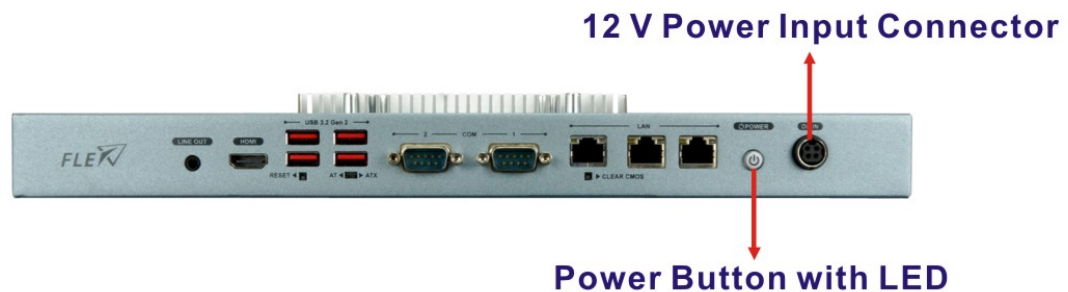

Figure 3-23: Power Button
Step 2: Press the power button on the front panel until the LED lights on in blue to power up the system (**Figure 3-23**).